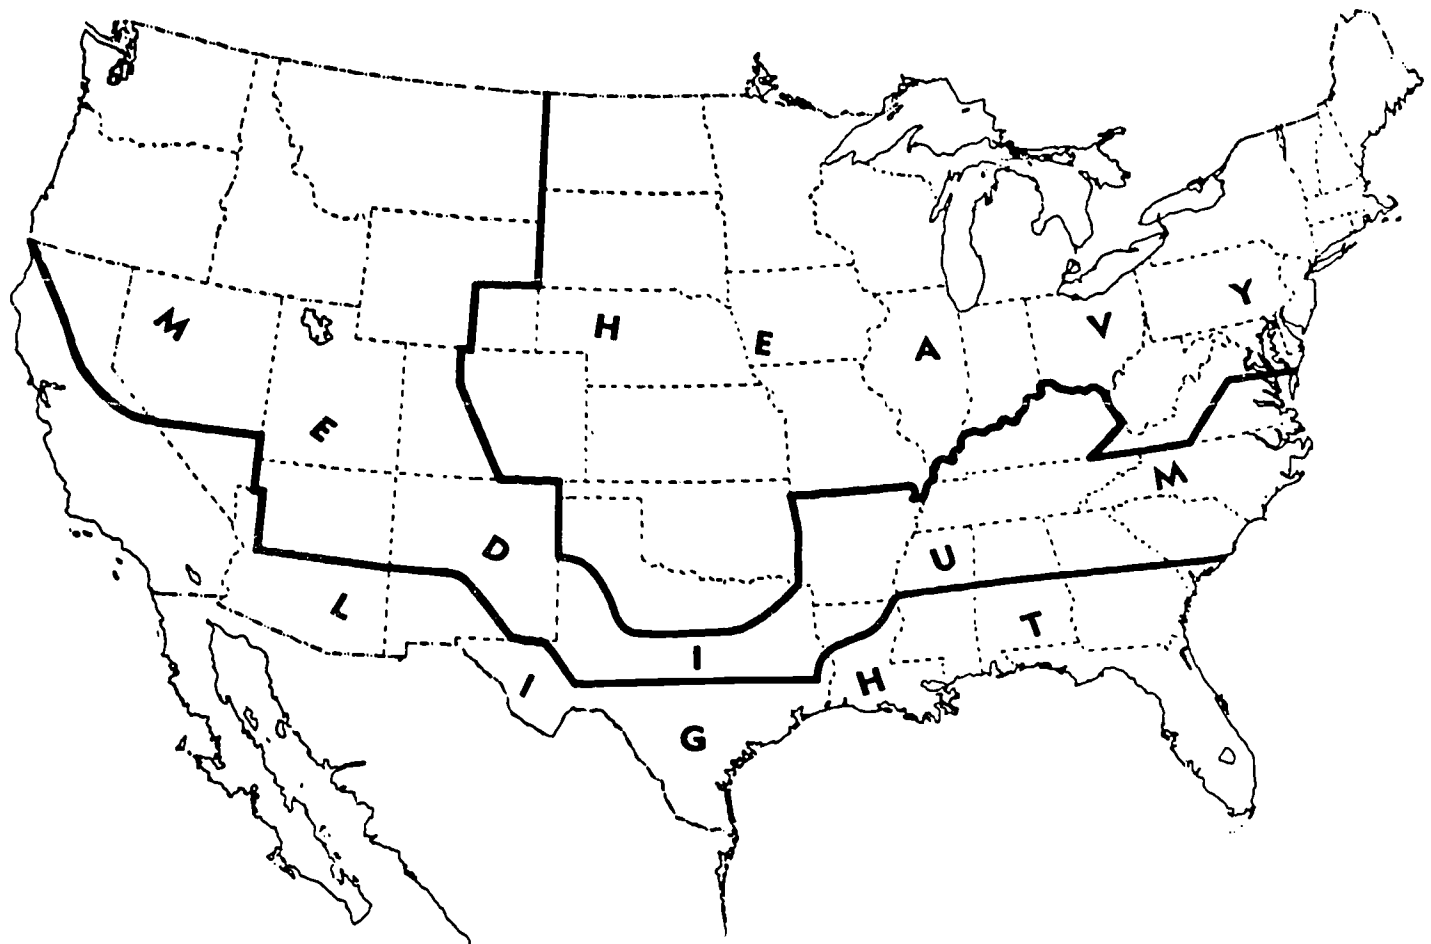

Figure 4-4. Nationwide loading zones.
Sag Requirements. Now let us consider some principles for the preceding steps. For example, clearance requirements, appearance considerations, and the possibility of damage from swinging contacts with other wires or obstructions will determine the maximum sag that may be placed in a drop wire span. Normal practice is to sag the drop wire at approximately (but not less than) the minimum sag given in table 4-1. These stringing sags will provide a favorable operating tension in drop wire spans and still maintain required ground clearance under usual construction conditions. At these minimum sags, the stringing tension will be approximately 30 pounds. The table has been compiled to cope with the normal weather conditions experienced in various parts of the country. Figure 4-4 illustrates the storm loading district map you should consult to determine which portion of table 4-1 to use in calculating the proper stringing sag for a drop wire span. In areas where high winds, freezing rains, and wet snows are common, the upper part of the table sets the sag. Where milder weather is
10. Using text figure 4-4 and table 4-1, specify the stringing sag for a 150 foot drop wire span in Iowa.